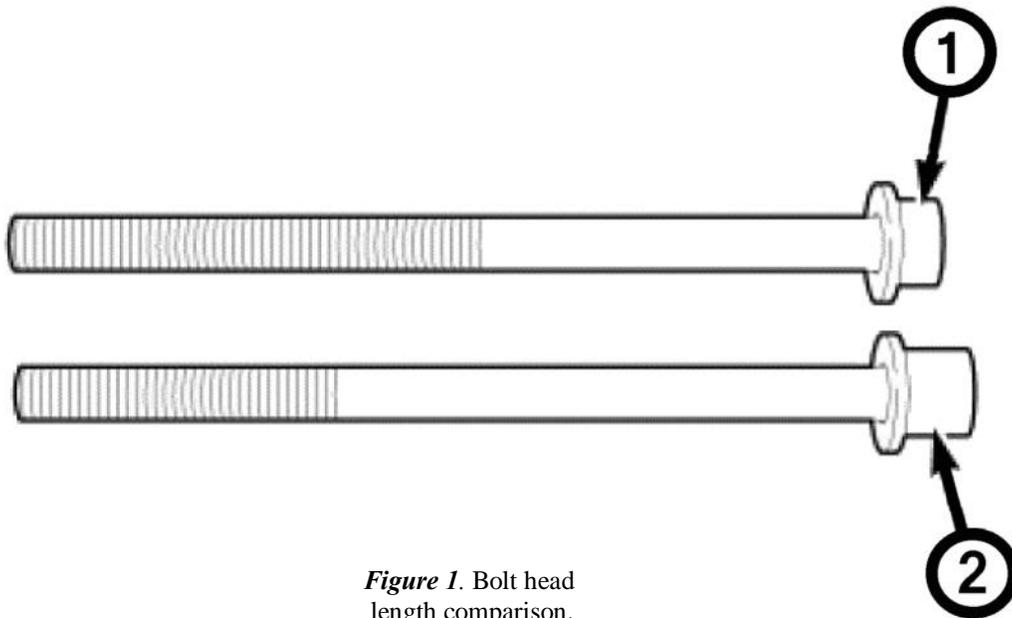

Figure 1. Bolt head length comparison.
CAUTION: This engine was built with two different style cylinder head bolts. Each style bolt requires a different torque value. The bolts can be identified by the short bolt head (1) and the long bolt head (2) as shown in **Figure 1**.